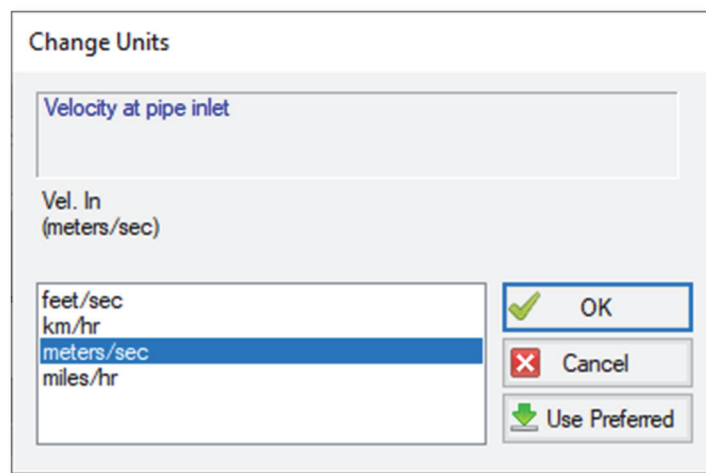

Figure 2.18 The Change Units window is opened from the Output window tables by double-clicking the column header
- **Lastly, double-click the column header for Vel. In the Output window in the pipe results in the Pipes table.** This will open a window in which you can change the units once again if you prefer (see Figure 2.18). These changes are extended to the Output Control parameter data you have previously set.